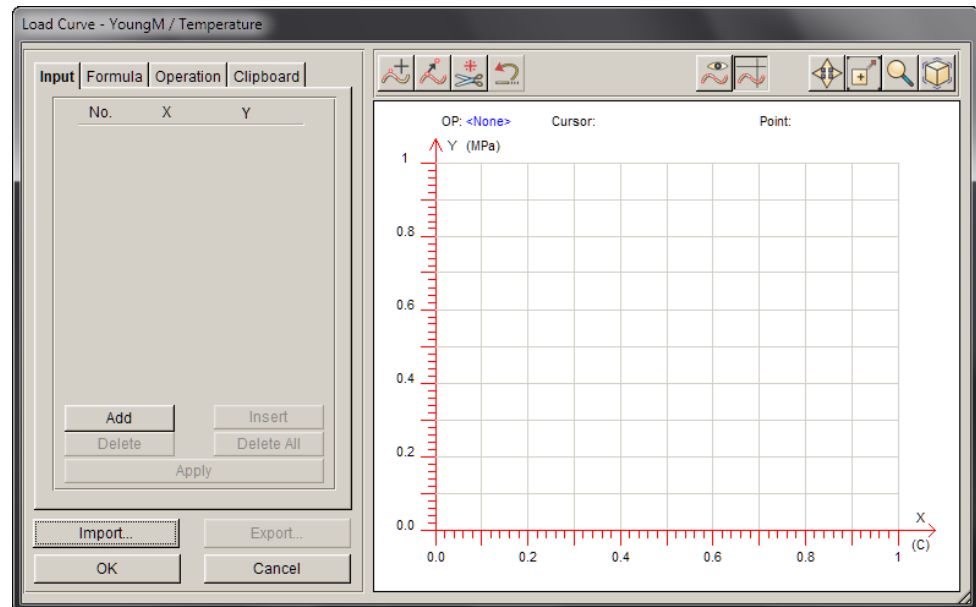

Figure 15
6. The dialog box illustrated in Figure 15 pops up. Click **Import** button in Figure 15.